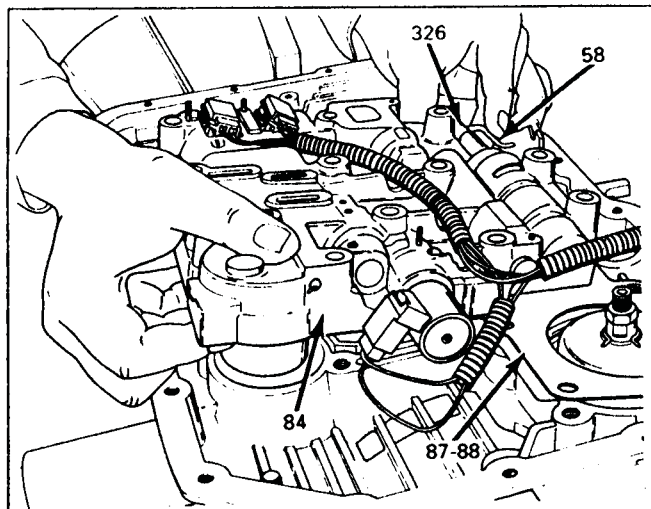

Figure 16
11. Remove the main case valve body while holding the manual valve, rotate the valve body assembly to disconnect the manual valve from the link (Figure 16).